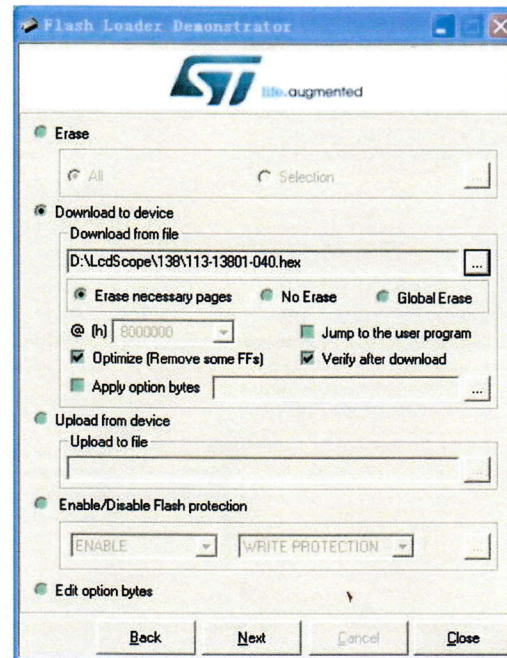

Fig. 8
- 6) In Fig. 8 select "Download to device" and open the firmware file (HEX file) which you have saved on your PC by clicking on the "...". Make all the rest settings the same as shown in Fig. 8. Then click on Next to start writing.